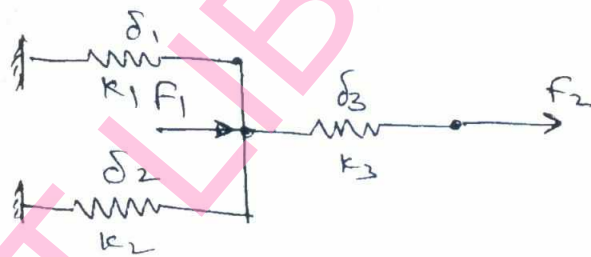

Fig. Q2(c)
- Determine the displacement at nodes of spring system shown Fig. Q2(c) using principle of minimum potential energy, (05 Marks)